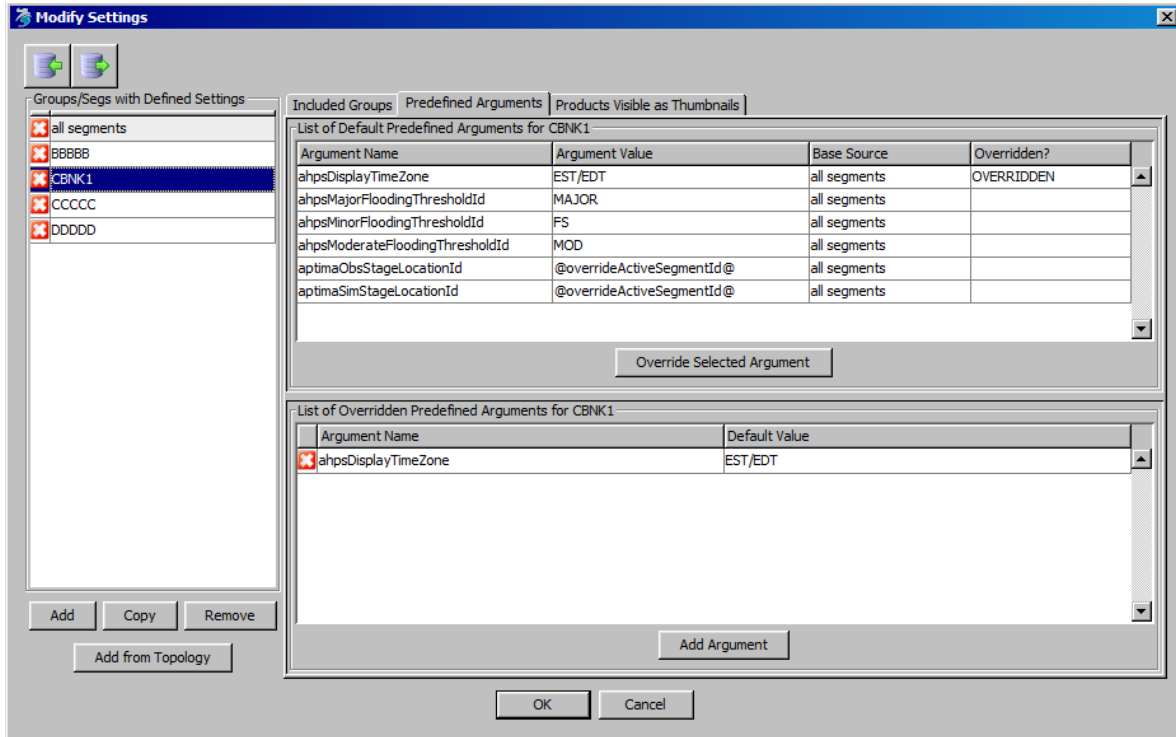

Figure 3-2: The **Modify Settings** Dialog after selecting “CBNK1” from the **Segs/Groups With Defined Settings** Table.
The **Modify Settings Dialog** is shown in Figure 3-2. The components are as follows:
The components of the **Predefined Arguments Tabbed Panel**, shown in Figure 3-2 (Section 3.1.2) are as follows:
-  **Change Default Settings Button:** Click to open the **Modify Settings for Segment Dialog** centered over the panel. The dialog allows for modifying the settings for the active segment, and is exactly identical to the tabbed panels portion of the **Modify Settings Dialog** shown in Figure 3-2. The dialog will only allow modification of settings for the active dialog. See Section 3.1.2 (pg. 21) for more details.